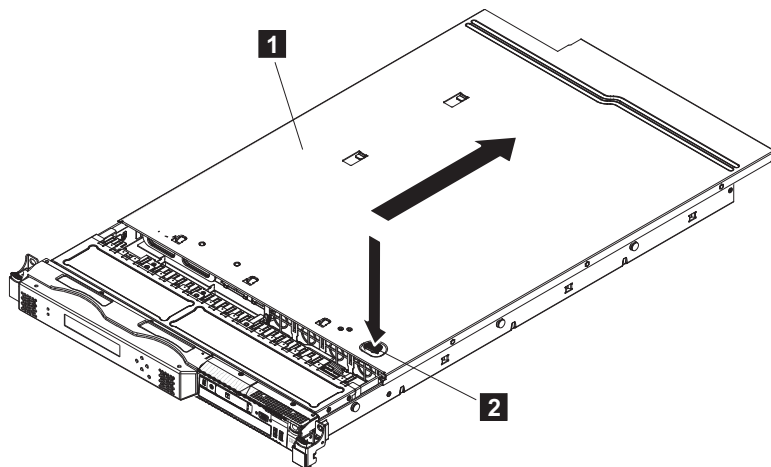

Figure 76. Removing the SAN Volume Controller 2145-CG8 or 2145-CF8 cover
5. Press down firmly on the blue tab (**2** in Figure 76) that secures the cover (**1**) and slide the cover toward the rear of the node until the cover disengages the chassis.